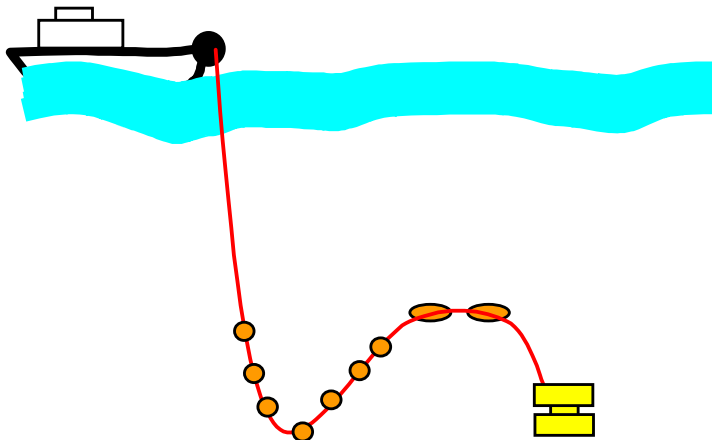

Figure 6-1: Non-lifting operation.
3. Keep the distance across a "U-shaped" catenary wider than 5m (Figure 6-1).
4. Keep the cable at the bottom of a "U-shaped" catenary close to neutral (Figure 6-1).
6. Distribute and gradually decrease buoyancy between buoyant and neutral section, by reducing point buoyancy and increase spacing. This applies specifically to ploughing operations (Figure 6-1).